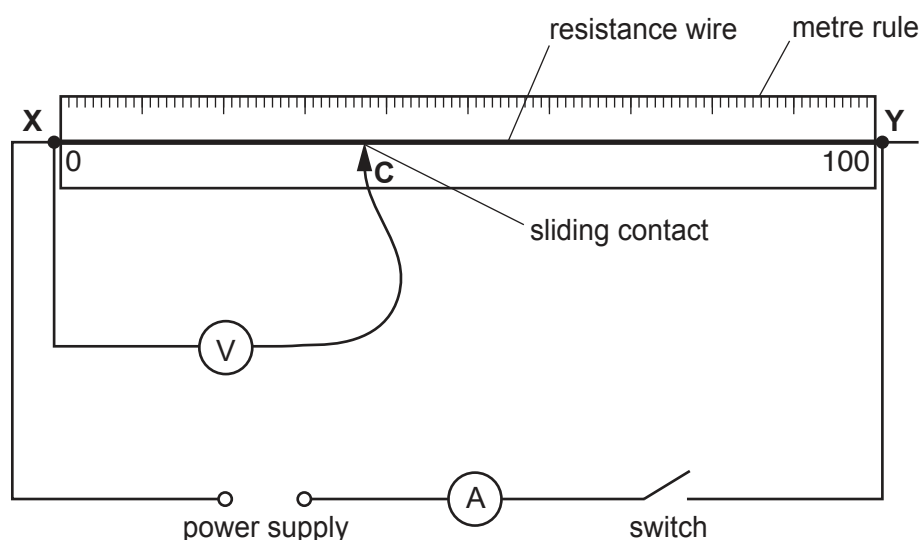

Fig. 3.1
3. The circuit shown in Fig. 3.1 must be set up for candidates.